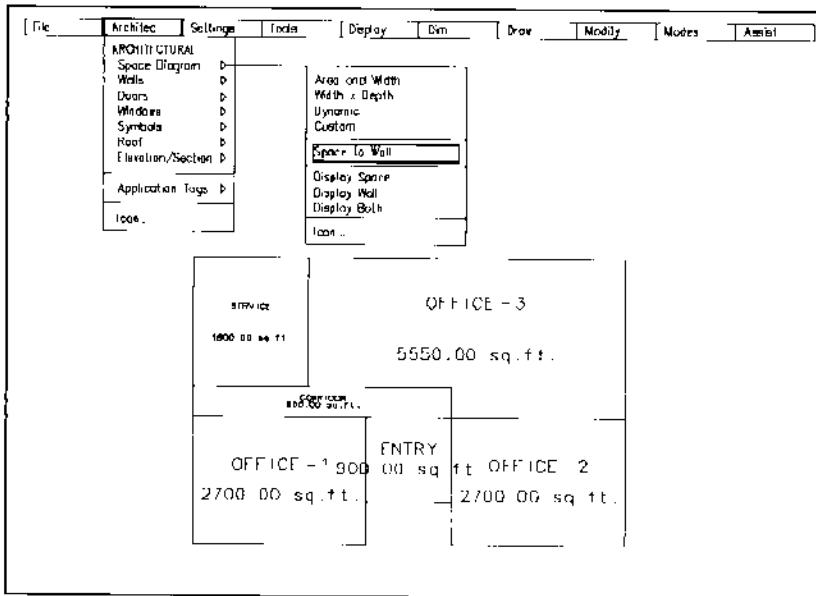

Figure 7.
2. Pick Space to Wall from the Space Diagram pull-down menu as shown in Figure 7 to convert the single line space diagram to double wall lines.